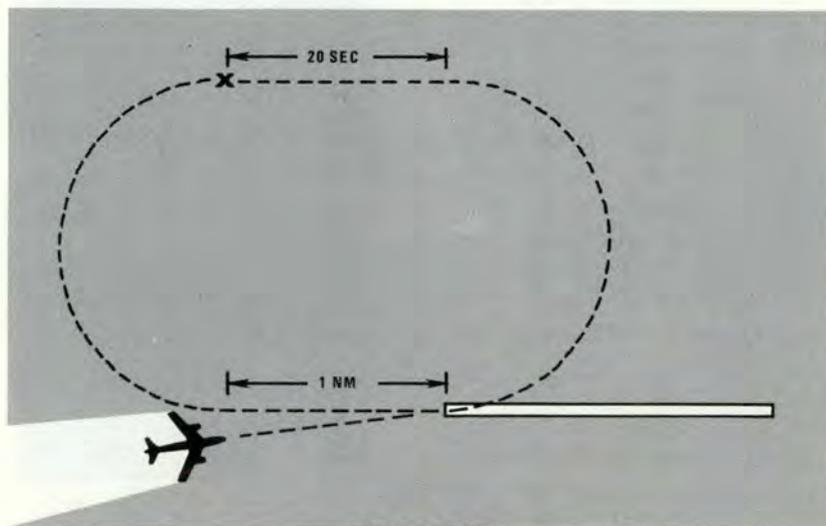

FIGURE 6
c. 360° MANEUVER: This maneuver is useful when dropping off a wingman if you can't make a formation landing, or at any other time when you can't land out of a straight in approach. Here the technique for displacing yourself is somewhat easier. The 180° turn to downwind, as shown in Figure 6, should give you adequate displacement in a no-wind condition. If winds are a factor, vary your bank angle in the turn or use a heading correction on downwind.
threshold would probably result in little, if any, time on final. This would not allow you to make additional configuration changes and/or obtain the desired final airspeed. Therefore, plan your turn to give you the needed distance on final. Here, as in some of the above techniques, a knowledge of your ground speed can be used to time your flight from the abeam position to a point where you want to begin the base turn. If your ground speed is 180 knots and you want a one mile final to fly the maneuver in Figure 6, time for 20 seconds and start the base turn. (No Wind).